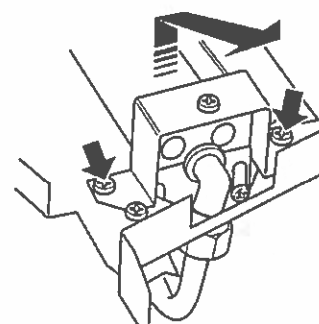

Figure 2. Removal of Natural gas burner.
2. Remove the natural gas burner. To do this support the elbow injector and unscrew the injector nut. Remove the two screws from the burner clamping plate (See figure 2). Lift the right hand side of the burner, slide it to the right and lift clear.